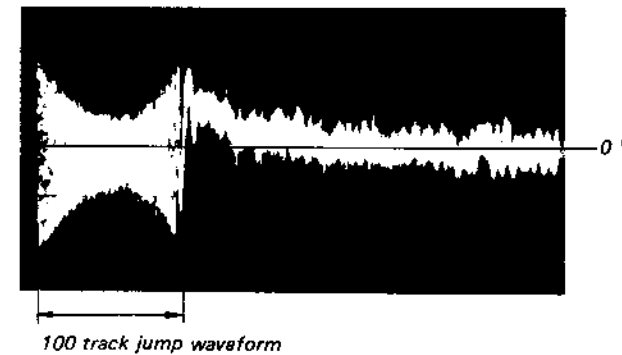

Fig. 9
7. Select AMS mode with the MODE button, continuously press **▶▶** or **◀◀** key and observe the 100 track jump waveform. Check that no traverse waveform appears for both **▶▶** and **◀◀** directions. (See Figures 9 and 10.) It is acceptable if the traverse waveform appears only now and then, but if it appears constantly, raise tracking gain slightly and check step 7 again.